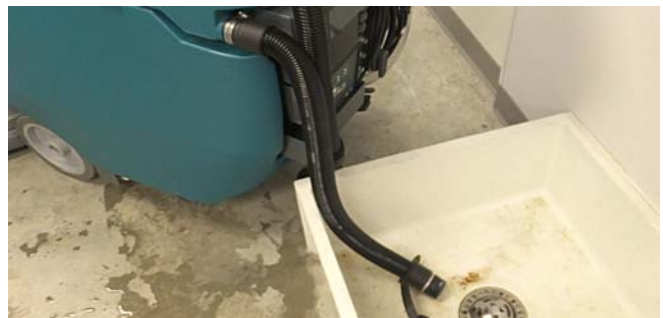

FIG. 45
2. For models equipped with drain hose caps, hold the hose upward, remove cap then slowly lower hose to drain. For models equipped with flow control valve drain hose, lower hose and slowly open valve to drain (Figure 45).